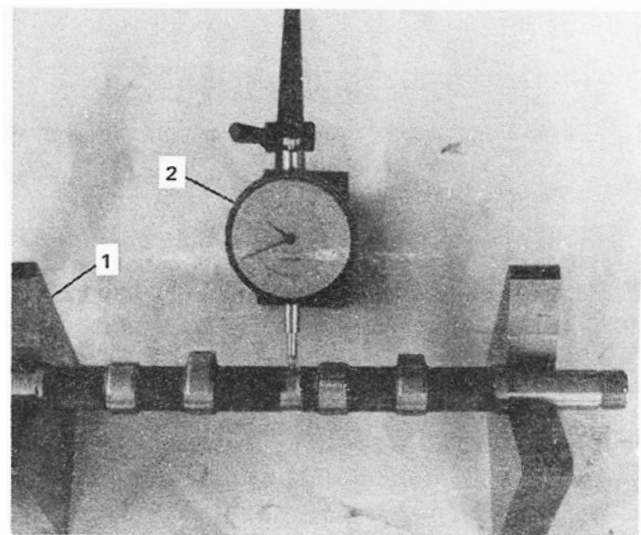

Figure 28
2. Place the camshaft on V-blocks to check the camshaft run-out. Measure the camshaft run-out by placing a dial gauge at the center of the camshaft, see Figure 28. Read the maximum value after rotating the camshaft one full turn. If the T.I.R. exceeds the specified limit page 28, replace the camshaft.